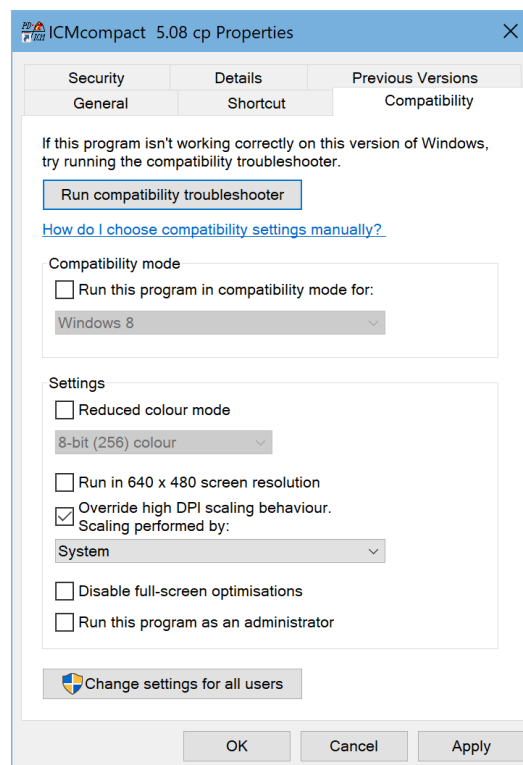

Figure 110: Properties window
2. Choose "Properties" from the context menu, which will open the "Properties" window (Figure 110).